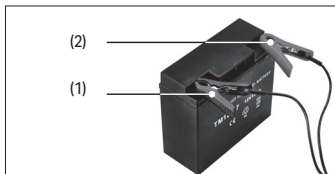

Fig. 2
3. Then connect the black (-) clip to the negative terminal of the car battery and the red (+) clip to the positive terminal of the battery. (Fig.2)